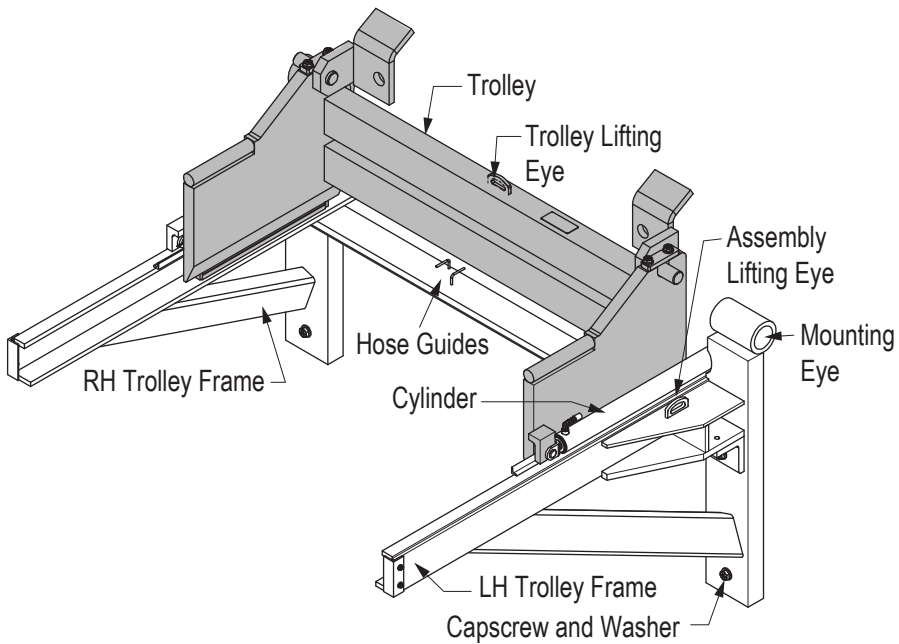

Figure 3-1, Wheel Handler Assembly Parts Identification
3. See Figure 3-1 Parts for part location reference. Refer to 45-039 Installation, Maintenance and Service Manual for more information on the integral carriage.